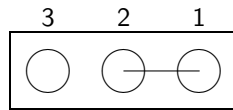

Figure 2.2: Jumper J0
- The ERROR PAL (U52) activates the ERRORIN input of the transputer when the data transfer controller or the extension board requests an event. J0 enables or disables the activation of the ERRORIN input in by the error PAL cause of an error condition: program error, address error or parity error. It has to be placed in 1-2 position as shown in figure 2.2.